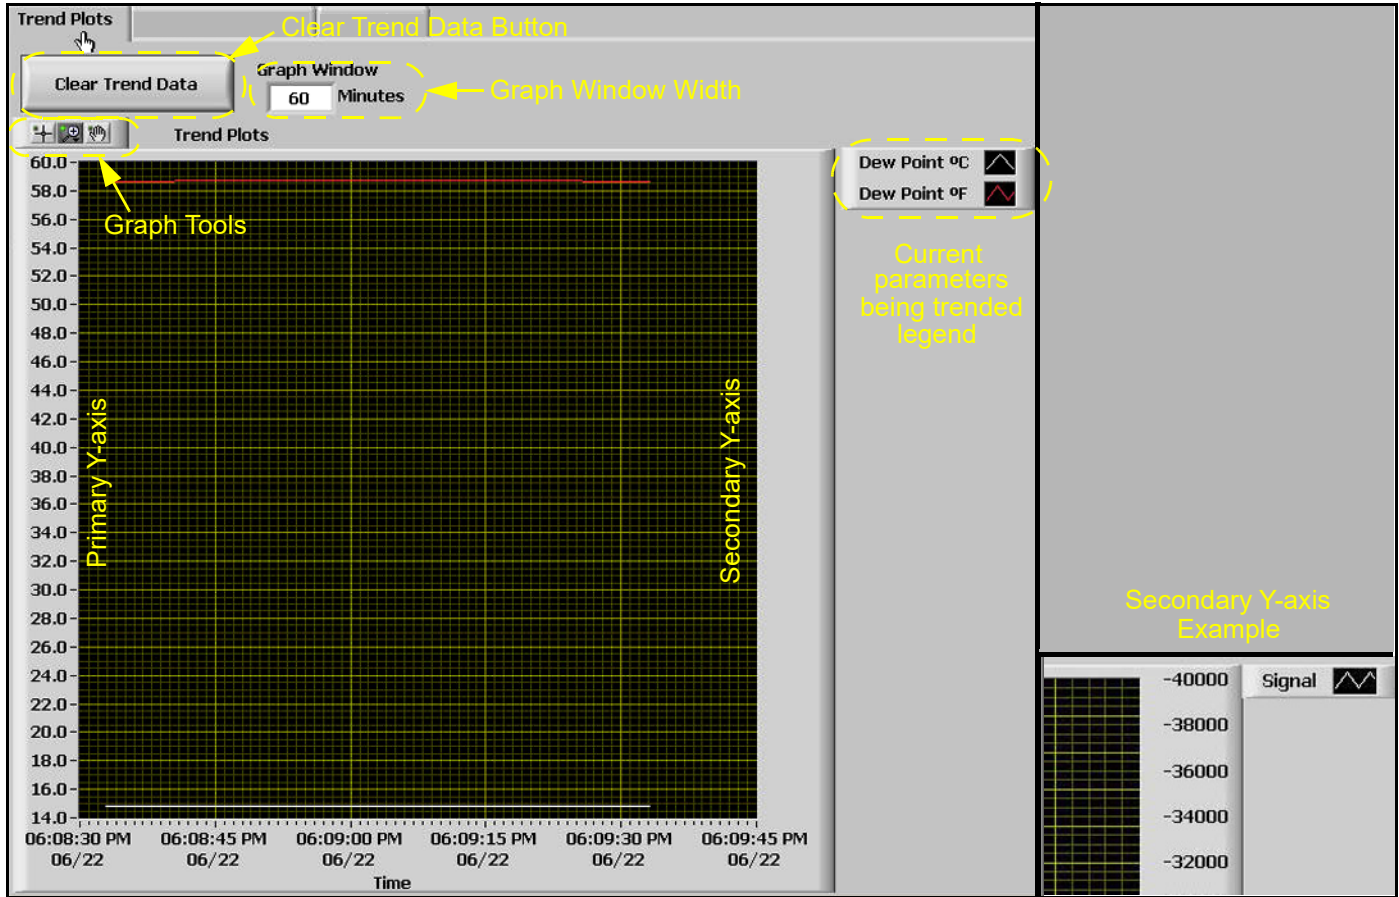

Figure 42: Using Trend Plots
1. Trend Plots is a powerful graphing feature in AuroraView. You can graph many parameters at the same time (see Figure 42 below).